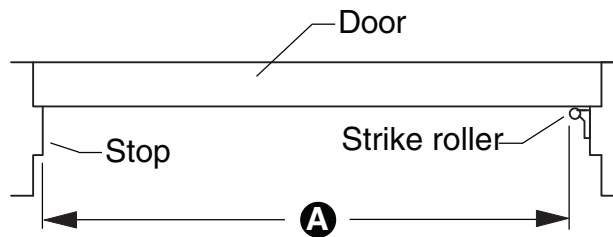

Figure 2-1
- 3.1. Measure from edge of stop to strike roller (Figure 2-1). **A** = .....